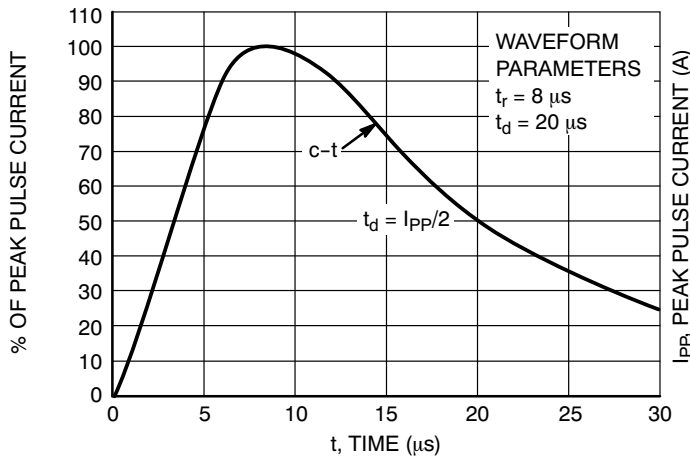

Figure 11. Pulse Waveform, $8 \times 20\text{ }\mu\text{s}$
10. Pulse waveform per Figure 11.